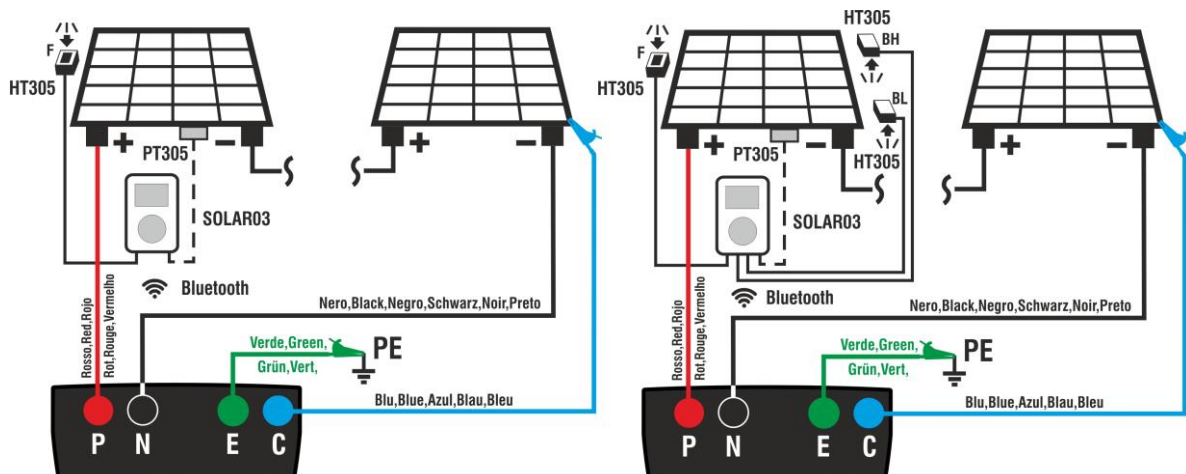

Fig. 11: Connection with remote unit SOLAR03 on Monofacial and Bifacial modules
- Connect the instrument to the PV module/string being tested and to the main earth node of the system, and to the metal masses connected to earth as shown in Fig. 11. In detail:
- **In case of Bifacial modules** → position the **3 reference cells HT305** onto the front surface of module (**F**), onto the back top part (**BH=BackHigh**) and onto the back bottom part (**BL=BackLow**) of the module. Connect the front reference cell (F) to input “**INP1**”, BH reference cell to input “**INP2**”, BL reference cell to input “**INP3**” and **possibly** the temperature probe **PT305** to input “**INP4**” of the remote unit.
9. Bring the remote unit near the modules and connect the irradiance/temperature probes as shown in Fig. 11. **Since recording has already been activated on remote unit SOLAR03, it is not strictly necessary to maintain the Bluetooth connection anymore.** Maintaining the connection will only allow to immediately obtain the outcome of the test without waiting for the measuring campaign to be completed.